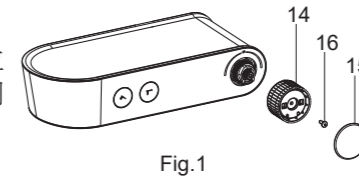

Fig.1
拆卸前确保温控把手(14)上的凸起朝向正上方且与本体上的数字37对齐。取下把手上盖(15)，用螺丝刀取出螺钉(16)，卸下温控把手(Fig.1)。
不要转动温控阀轴，安装温控把手(14)使温控把手上的凸起朝向正上方且与本体上的数字37对齐。用螺丝刀锁紧螺钉(16)，安装把手上盖(15)(Fig.1)。
Before your action, ensure the bulge on the temperature handle(14) is facing upwards and aligned with the number 37 on the faucet body. Remove the plug(15). Remove the screw(16) with a screwdriver. Take out the temperature handle(Fig.1).
Do not turn the cartridge spindle. Install the temperature handle(14). Ensure the bulge on the temperature handle is facing upwards and aligned with the number 37 on the faucet body. Tighten the screw(16) with a screwdriver. Install the plug(15) (Fig.1).